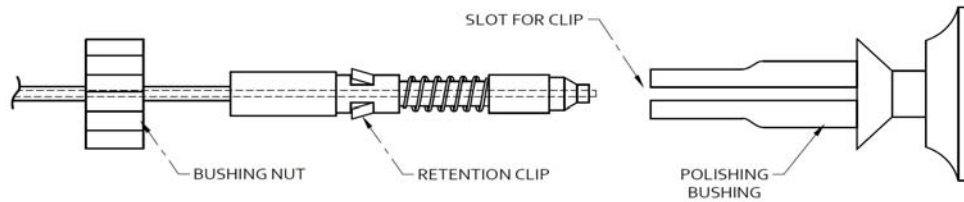

Figure 6.1
9. Insert contact into polishing bushing, and tighten bushing. Be sure to align retention clip on the contact with slots on polishing bushing. See Figure 6.1
9. Insert contact into polishing bushing and tighten bushing. Be sure to align retention clip on the contact with the slots on the polishing bushing. See Figure 6.1 above.